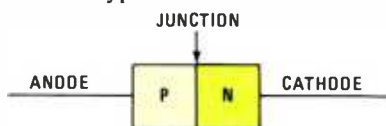

Fig. 1—A junction diode is formed by joining P- and N-type semiconductor materials.
possible damage during shipment, the G-POS mode was selected at assembly time. To activate the more desirable G-NEG mode, first remove the suspensor unit's (Fig. 1) elastometer limit stop (if present).
The friendly holding surface (surface "A") and the aggressor point are clearly shown on Fig. 1 and should be used as directed in the instructions.
13. A diode is created by joining P-type and N-type semiconductors, as shown Fig. 1. The P-type element is called the *anode* while the N-type element is called the *cathode*. The